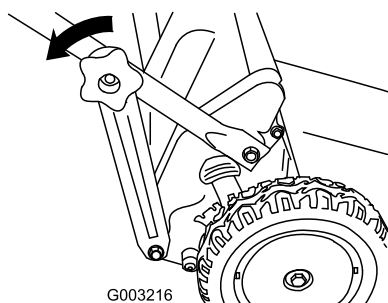

Figure 35
1. Remove the lower handle knobs (Figure 35).
2. Detach the lower handle brackets from the lower end of both handle sides (Figure 35).